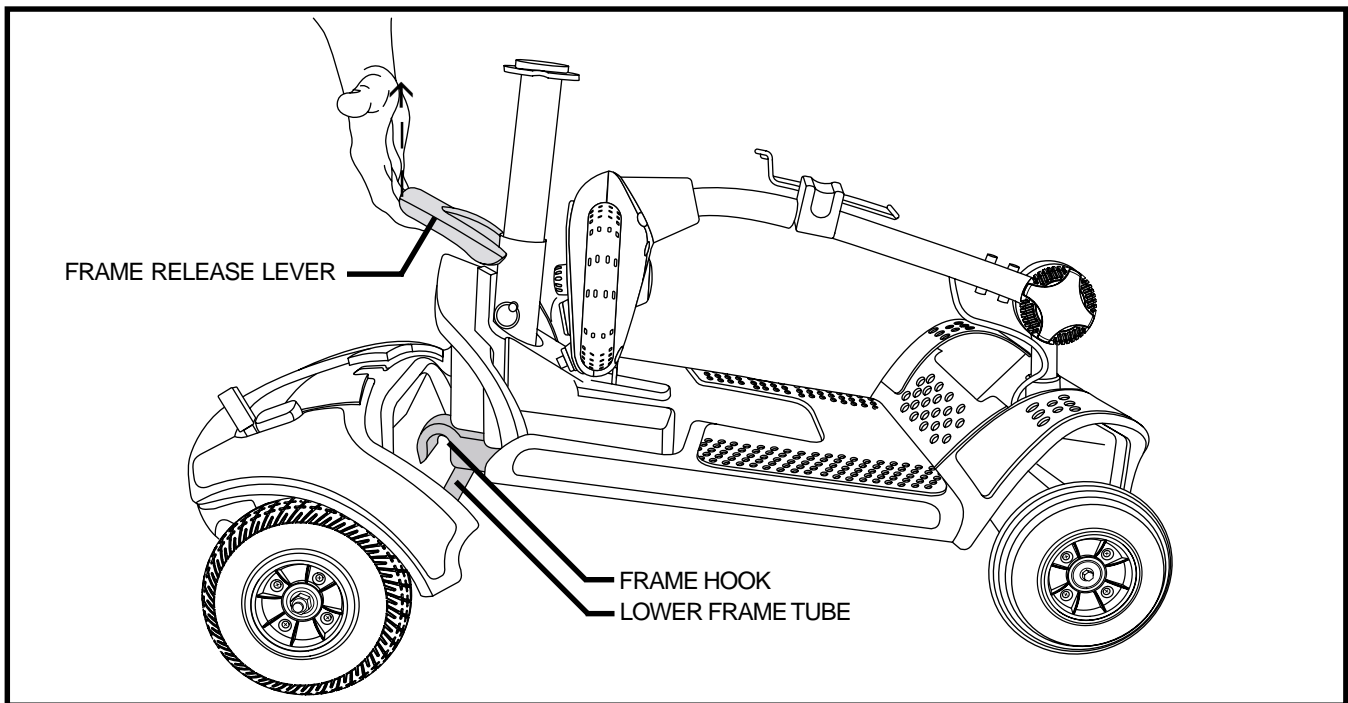

Figure 23. Frame Separation
2. Lift up on the frame release lever until the frame hooks are no longer resting on the lower frame tube. See **figure 23**.
NOTE: Before attempting assembly, tilt the rear half of the Travel Scooter slightly back on the anti-tip wheels as shown in figure 23.
1. Use the frame release lever to lift the front section as you align the frame hooks of the front section with the lower frame tube of the rear section. **See figure 23.**